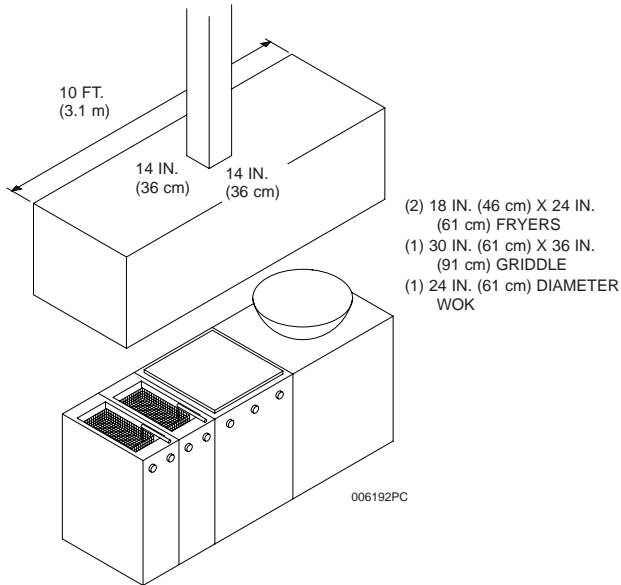

Figure 3-19.
The cooking area that requires protection consists of a single 56 in. (142 cm) perimeter exhaust duct, a 10 ft. (3.1 m) long "V" bank plenum, (2) 18 in. (46 cm) wide x 24 in. (61 cm) fryers, a 30 in. (76 cm) x 36 in. (91 cm) wide griddle, and a 24 in. (61 cm) diameter wok. See **Figure 3-19**.